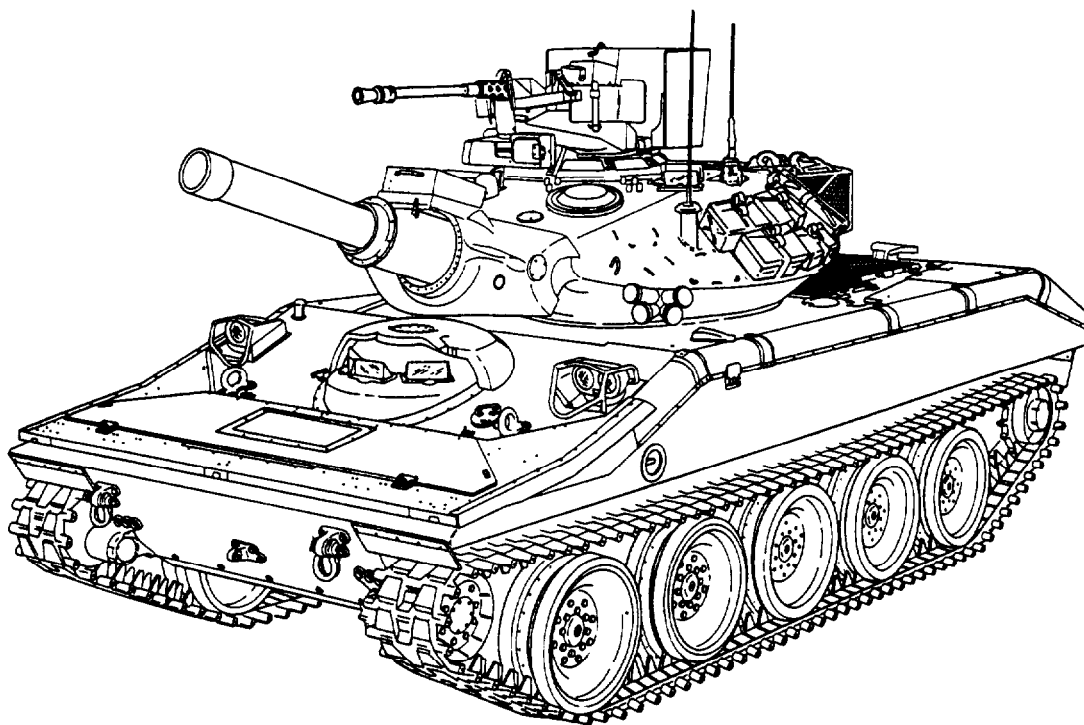

Figure 1-1. Armored reconnaissance/airborne assault vehicle: full tracked, 152mm M551/M551A1 — left front view.
a. This manual contains instructions for direct support and general support of hull, suspension, final drive, and miscellaneous components for the Armored Reconnaissance/Airborne Assault Vehicle: Full Tracked, 152mm M551/M551A1 (figs. 1-1 and 1-2).